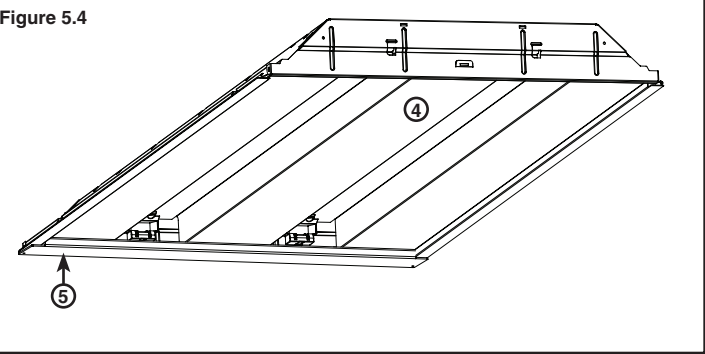

Figure 5.5
10. Install both LED lamps to the lampholder. **Important:** Install the lamps with the blade contacts to the LED lampholder first and then push the lamp into the spring clip side to lock in place (see Figure 5.5).